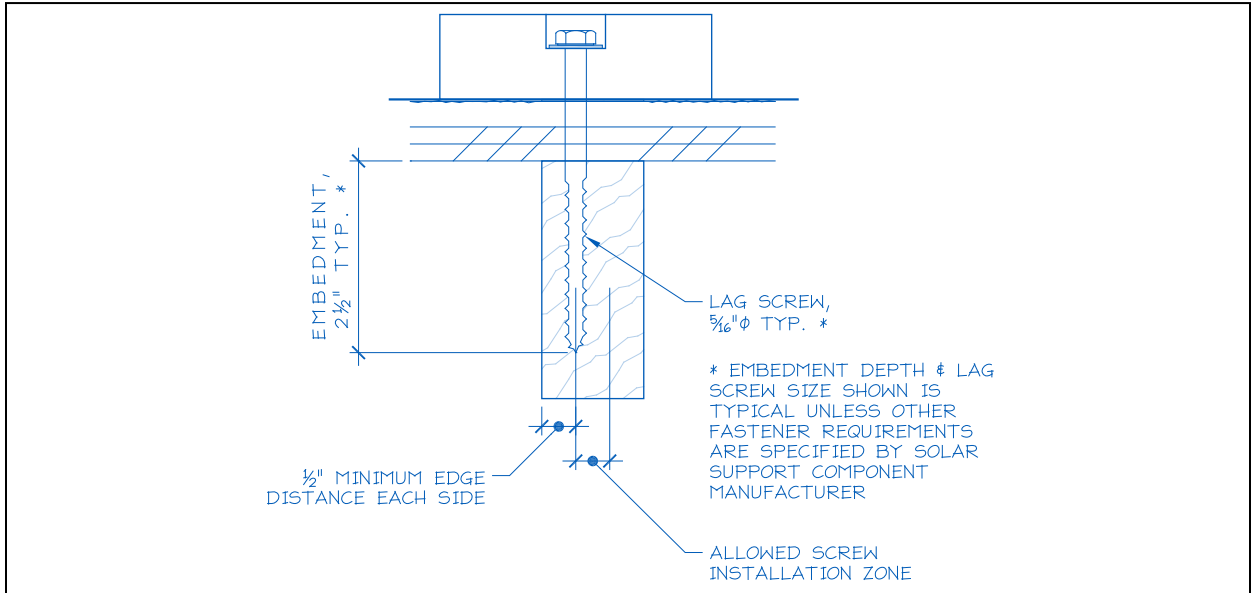

Figure 3 Typical Anchor with Lag Screw Attachment
- 1. Anchor fastener data (see Figure 3):